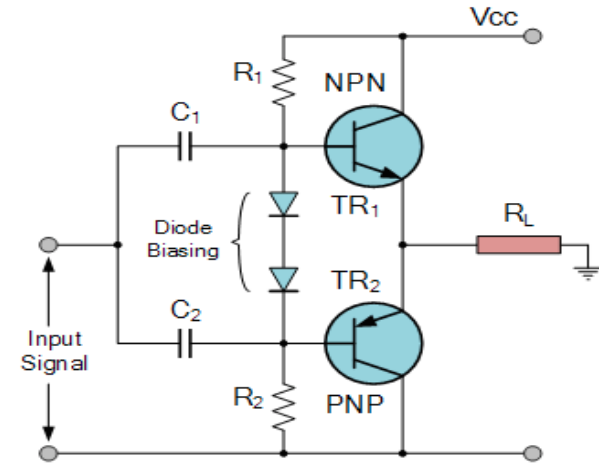

Figure 18
- The amount of diode biasing voltage present at the base terminal of the transistor can be increased in multiples by adding additional diodes in series. This then produces an amplifier circuit commonly called a **Class AB Amplifier** and its biasing arrangement is given in Figure 18.
- However, to achieve this the bias voltage must be at least twice that of the normal base to emitter voltage to turn “ON” the transistors. This pre-biasing can also be implemented in transformer-less amplifiers that use complementary transistors by simply replacing the two potential divider resistors with **Biasing Diodes** as shown in Figure 18.